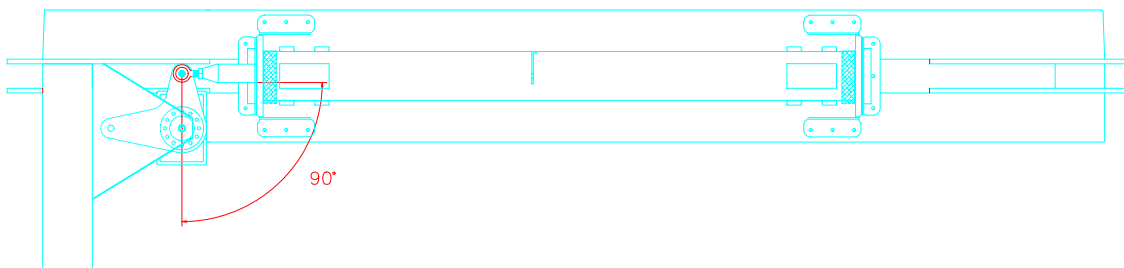

Figure 15.6.13
18) Adjust the push-pull tube until CC-47-2 is 90° to the control column. Figure 15.6.13.